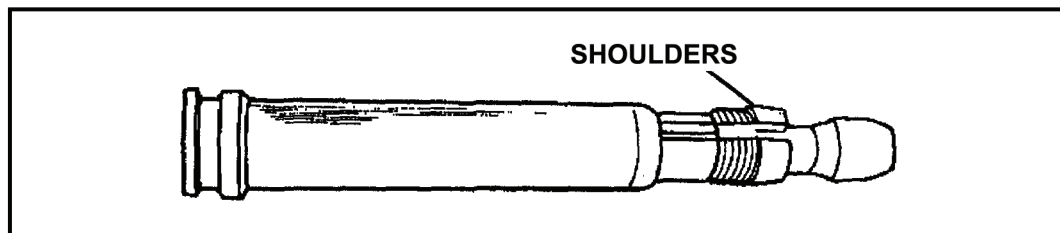

Figure 4-1. Ruptured cartridge case extractor.
(2) **Removal of a Ruptured Cartridge.** A ruptured (separated) cartridge case may be removed with a cleaning rod or ruptured cartridge extractor. When using the ruptured cartridge extractor, raise the cover and pull the bolt to the rear. Place the extractor in the T-slot of the bolt, the same as for a cartridge, so that it is held in line with the bore by the ejector of the extractor assembly of the gun. With the extractor aligned with the bore and held firmly in the T-slot, let the bolt go forward into the ruptured case; the shoulders will spring out in front of the case. Pull the bolt to the rear and remove the ruptured case and extractor (Figures 4-1 and 4-2, page 4-5).